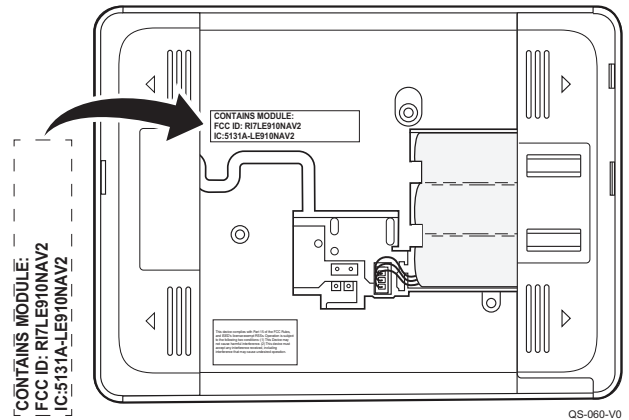

Figure 1. FCC/IC Label Location
1. Affix the provided FCC/IC label (P/N 800-25180 for the PROWIFIZW) on the control's case back (refer to Figure 1).